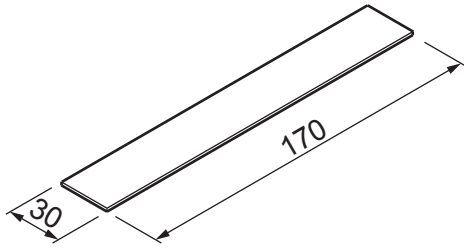

Fig. 13.7
- (f) Fig. 13.7 shows 1 mm thick brass sheet from which a handle for the drawer will be produced.